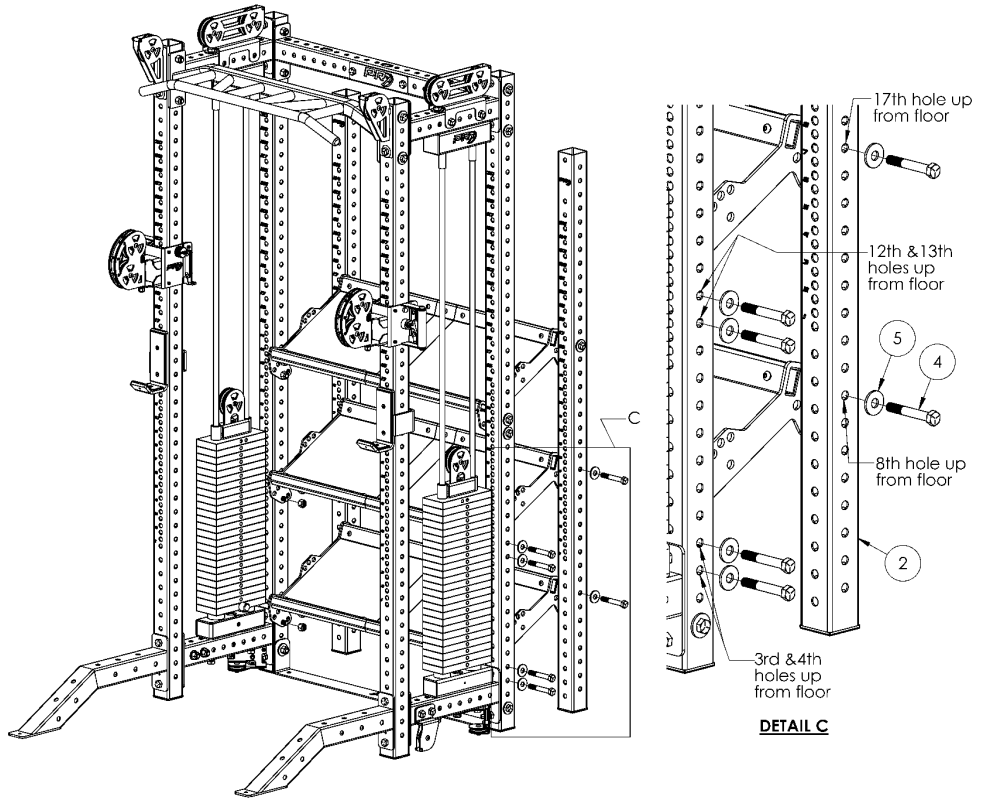

Figure 3
1. Attach the other two Dumbbell Shelves (1) to the rack. **Figure 3**